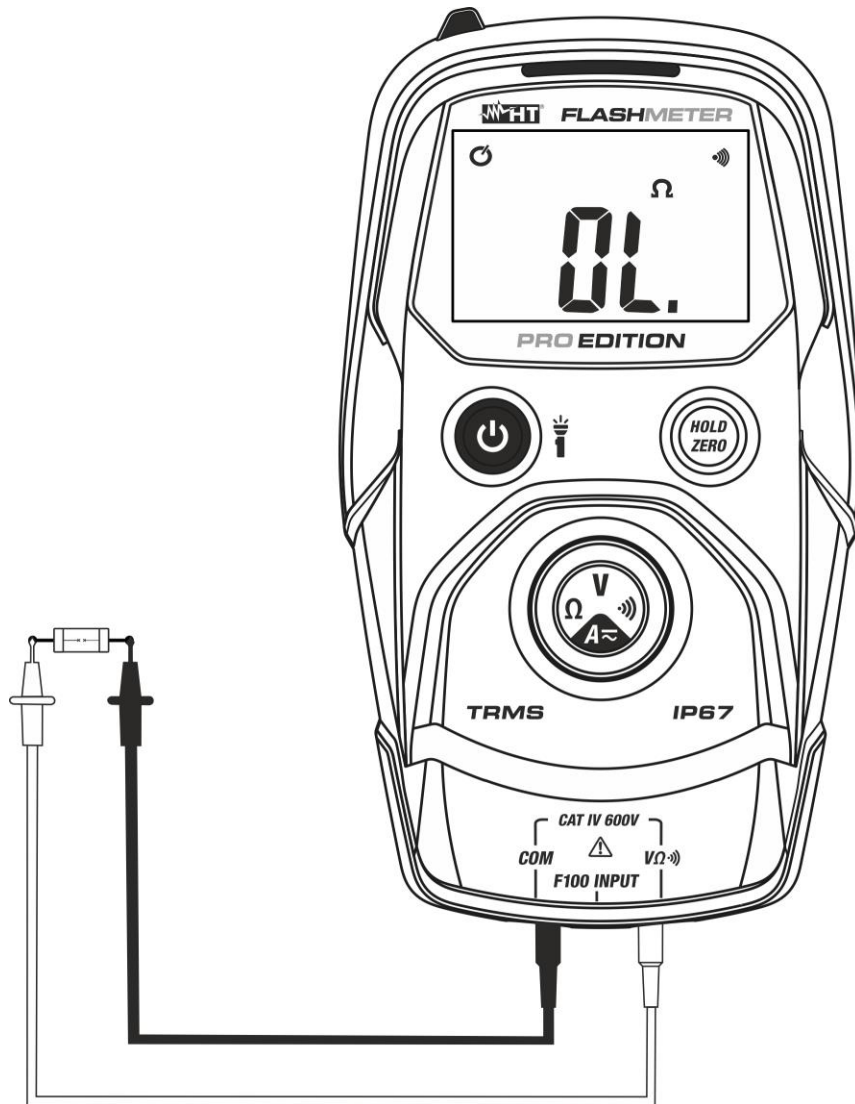

Fig. 6: Use of the instrument for Continuity test
4. Position the test leads in the circuit to be measured (see Fig. 6). The continuity buzzer activates for $R < 50\Omega$